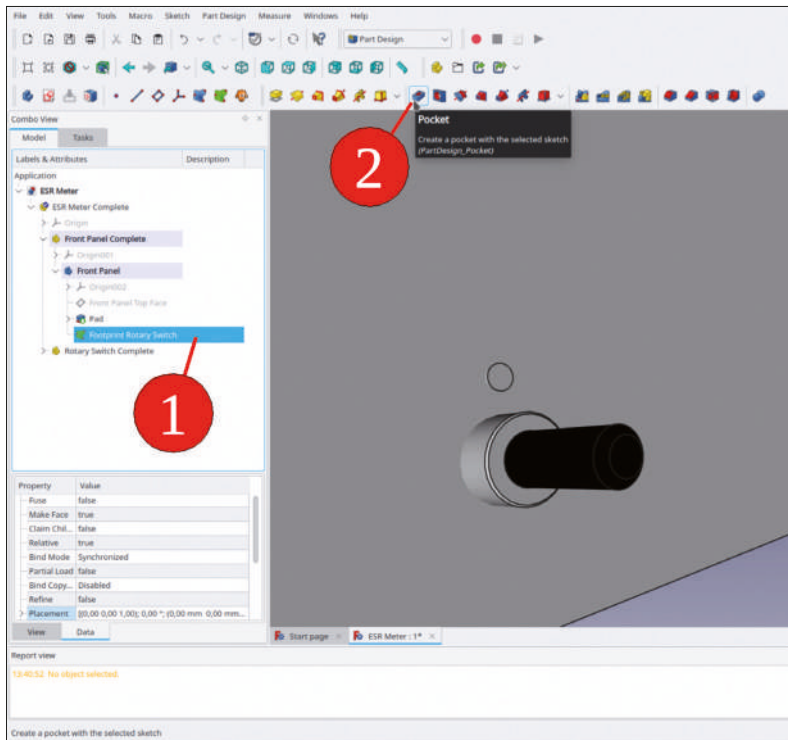

Figure 7-10
6. In the tree view, mark the new SubShapeBinder and click the 'Pocket' tool button (Figure 7-10).